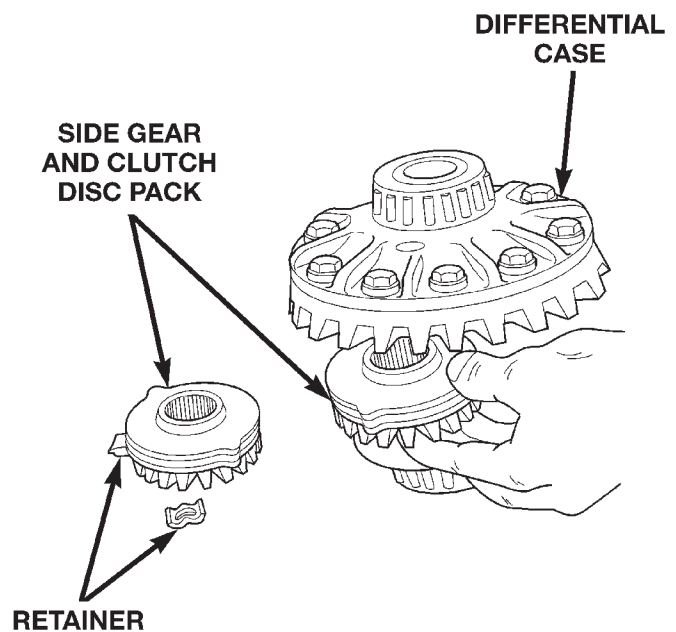

Fig. 47 Side Gear & Clutch Disc Removal
(16) Remove top side gear, clutch pack retainer, and clutch pack. Keep plates in correct order during removal (Fig. 47).
(17) Remove differential case from Side Gear Holding Tool 8138. Remove side gear, clutch pack retainer, and clutch pack. Keep plates in correct order during removal.